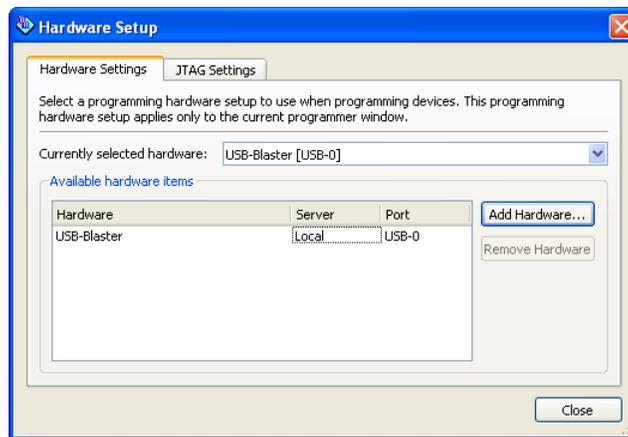

Figure 10. Setting up hardware.
- For SignalTap II to work, we need to properly set up the hardware. First, make sure the DE-series board is plugged in and turned on. In the Hardware section of the SignalTap II window, located in the top right corner, click Setup, bringing up the window in Figure 10. Double click USB-Blaster in the Available Hardware Items menu, then click Close.